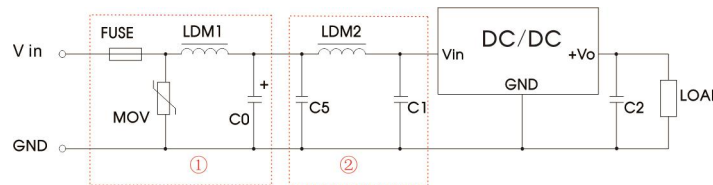

Fig.4 Recommended compliance circuit
| Emissions | CE    | CISPR32/EN55032  | CLASS B (see Fig. 4-② for recommended circuit)           |                  |
|           | RE    | CISPR32/EN55032  | CLASS B (see Fig. 4-② for recommended circuit)           |                  |
|           | EFT   | IEC/EN 61000-4-4 | ±1kV (see Fig. 4-① for recommended circuit)              | perf. Criteria B |
|           | Surge | IEC/EN 61000-4-5 | line to line ±1kV (see Fig. 4-① for recommended circuit) | perf. Criteria B |
Note: Part ① in Fig. 4 shows EMS compliance filter and part ② filter for EMI compliance; depending on requirement both filters ① and ② can be used in series as shown.